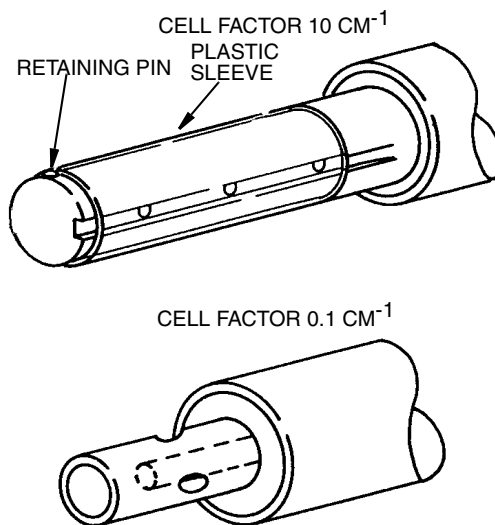

Figure 20. Immersion Portion of Sensors
Deposits on the electrode (immersion portion of the sensor, Figure 20) can seriously affect the sensor's accuracy.
6. With a sensor having a cell factor of 10 cm^{-1} , slide the plastic sleeve over retaining pin and remove sleeve (see Figure 20). Clean both sides of the plastic sleeve.